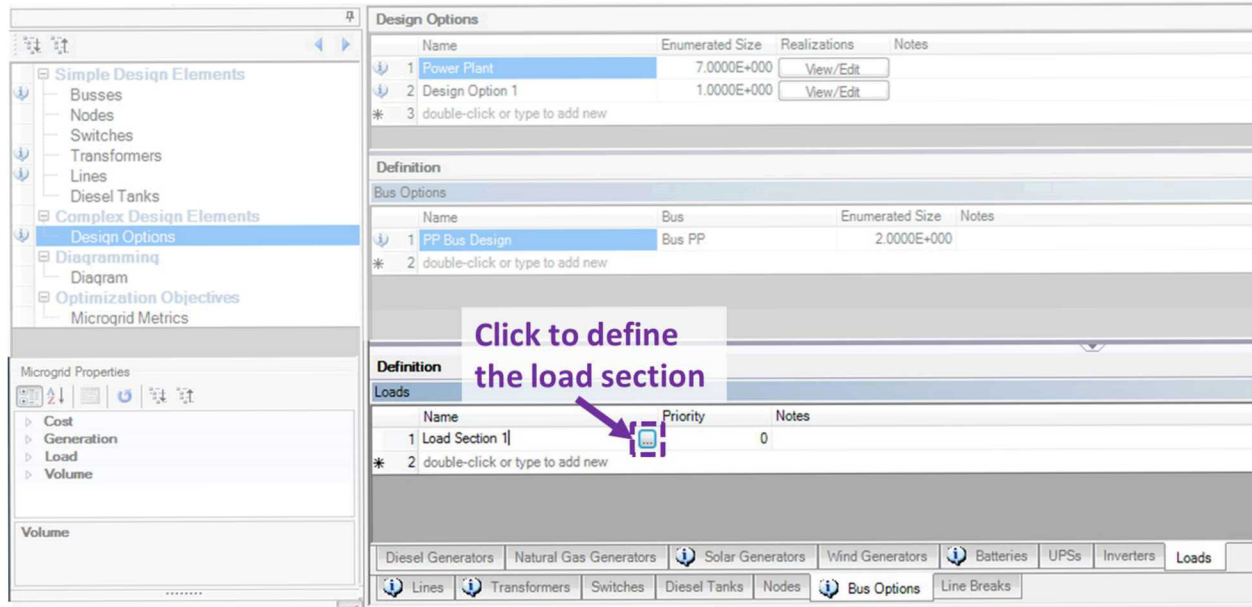

Figure 35. Click the button next to a load section name to define it.
- 3.3.5.2 Loads – Click in the Name field. Click the button with three dots (highlighted in purple in Figure 35). A new window will open. Define the loads and add load data to the load section. When you have completed entering information about buses, click the “OK” button at the bottom of the screen to close the window.